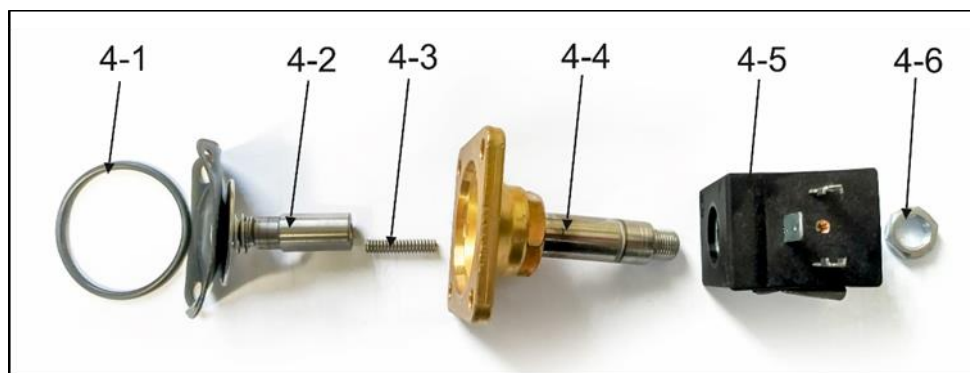

Fig. 28: Solenoid valve assembly
- Unscrew the 1 screw from the valve connector (1).
- Disconnect the valve connector (1).
- Unscrew the 4 screws (2).
- Remove the solenoid valve (3).
- Remove the valve seal (4-1) from the body. (Fig. 28).
- Install the solenoid valve (Fig. 28).
- Install the new solenoid valve using the 4 screws (2) and use a thread locking adhesive on the threads of the screws (such as Loctite 243).